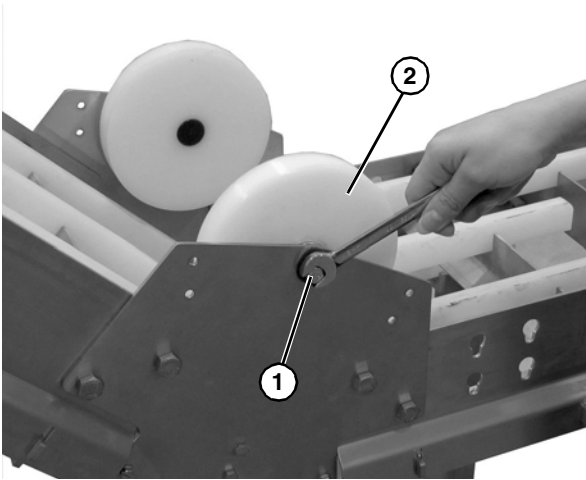

Figure 67
3. Remove the cap screw (**Figure 67, item 1**) and the hold down roller (**Figure 67, item 2**). Repeat on opposite side of the conveyor.